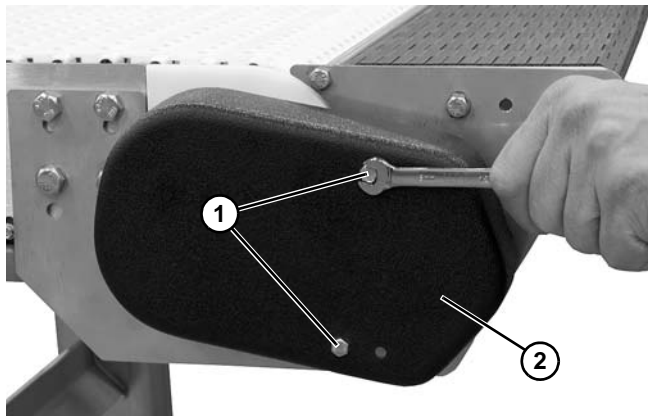

Figure 59
1. Remove two hex head screws (**Figure 59, item 1**) and cover (**Figure 59, item 2**).